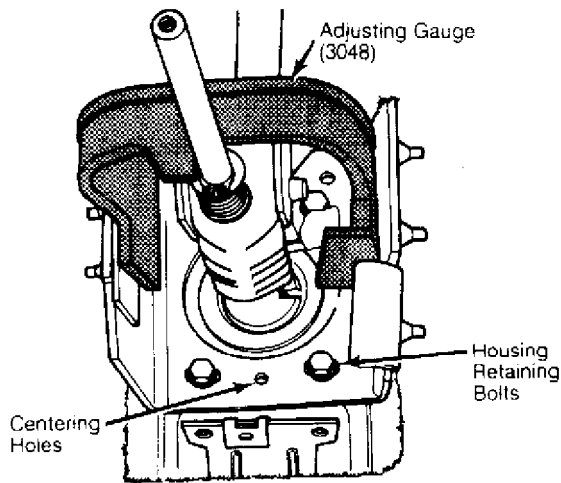

Fig. 8: Adjusting Quantum Syncro Gearshift Linkage
4) Loosen 4 housing retaining bolts. See Fig. 8. Move gearshift lever slightly in slots. Tighten bolts.